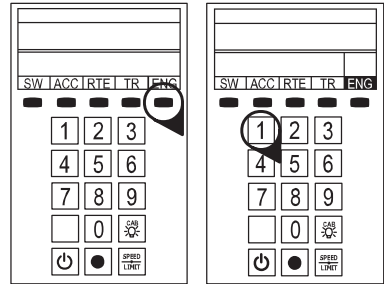

Figure 1. LEGACY engine selection
- 4. As illustrated in Figure 1, press ENG and 1 (or your selected ENG ID#) to address the locomotive with your LEGACY CAB-2 Remote Controller.**